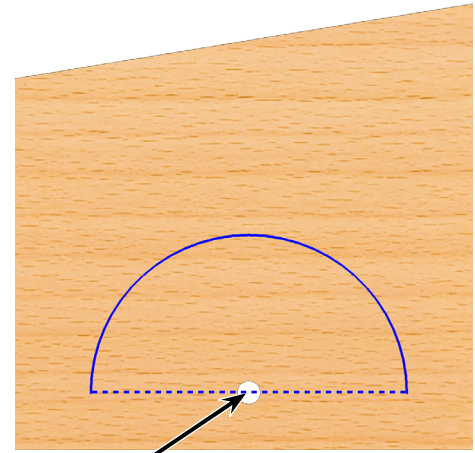

Fig. 10
Step 4. Click **Centerpoint Arc**  (S) in the **Arc flyout**  on the Sketch toolbar.
Step 5. Click in the center of the axle hole to start the arc and move the cursor to the right. Click to place the first endpoint, then move cursor counterclockwise 180 degrees. Click to place the second endpoint, **Fig. 10**.
Step 6. Click **Smart Dimension**  (S) on the Sketch toolbar.